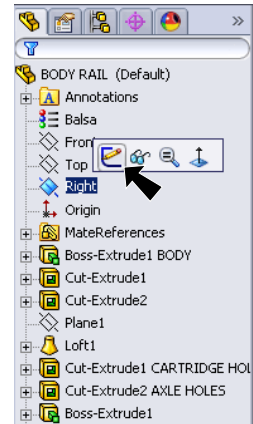

Fig. 88
Step 1. Click **Right**  (plane) in the Feature Manager and click **Sketch**  from the Content toolbar, **Fig. 88**.